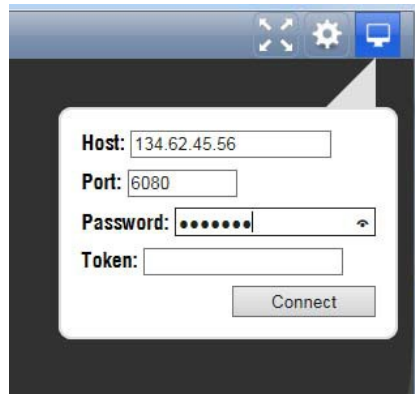

Figure 10: noVNC login web page
3. In the Control bar, click the **Connect** icon (💻) to open the Connect dialog. (See Figure 10.)